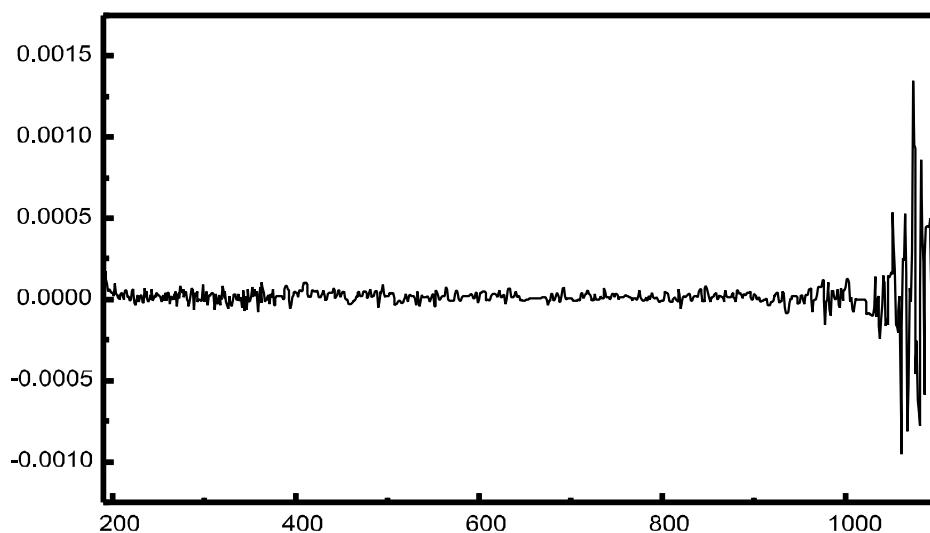
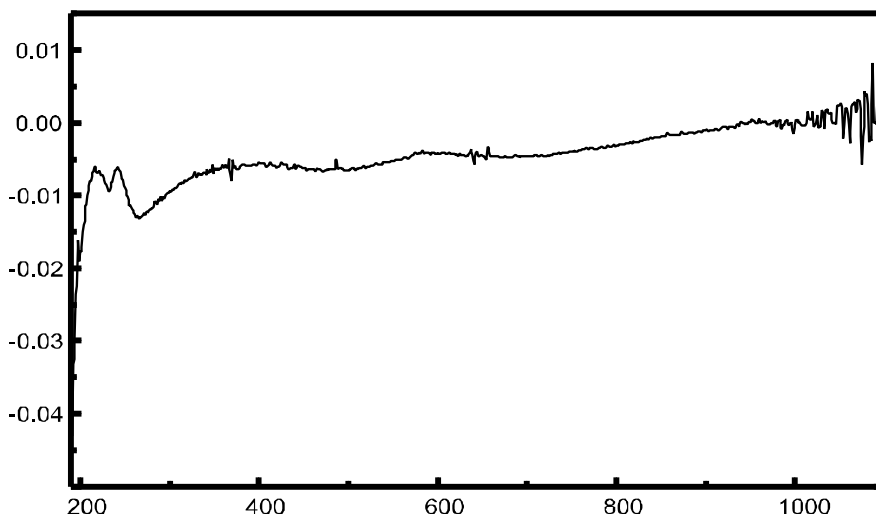

Figure 9 Example of a Blank on Water Showing a Good Baseline
Figure 10 Example of a Blank on Water with Bubbles Causing a Poor Baseline
- ✓ Blank measurement shows a flat baseline (Figure 9 and Figure 10 on page 52 show a good and a poor baseline)
If your blank or spectra shows artifacts similar to the one in Figure 10, see “Solvents” on page 47 to optimize the measurement procedure.